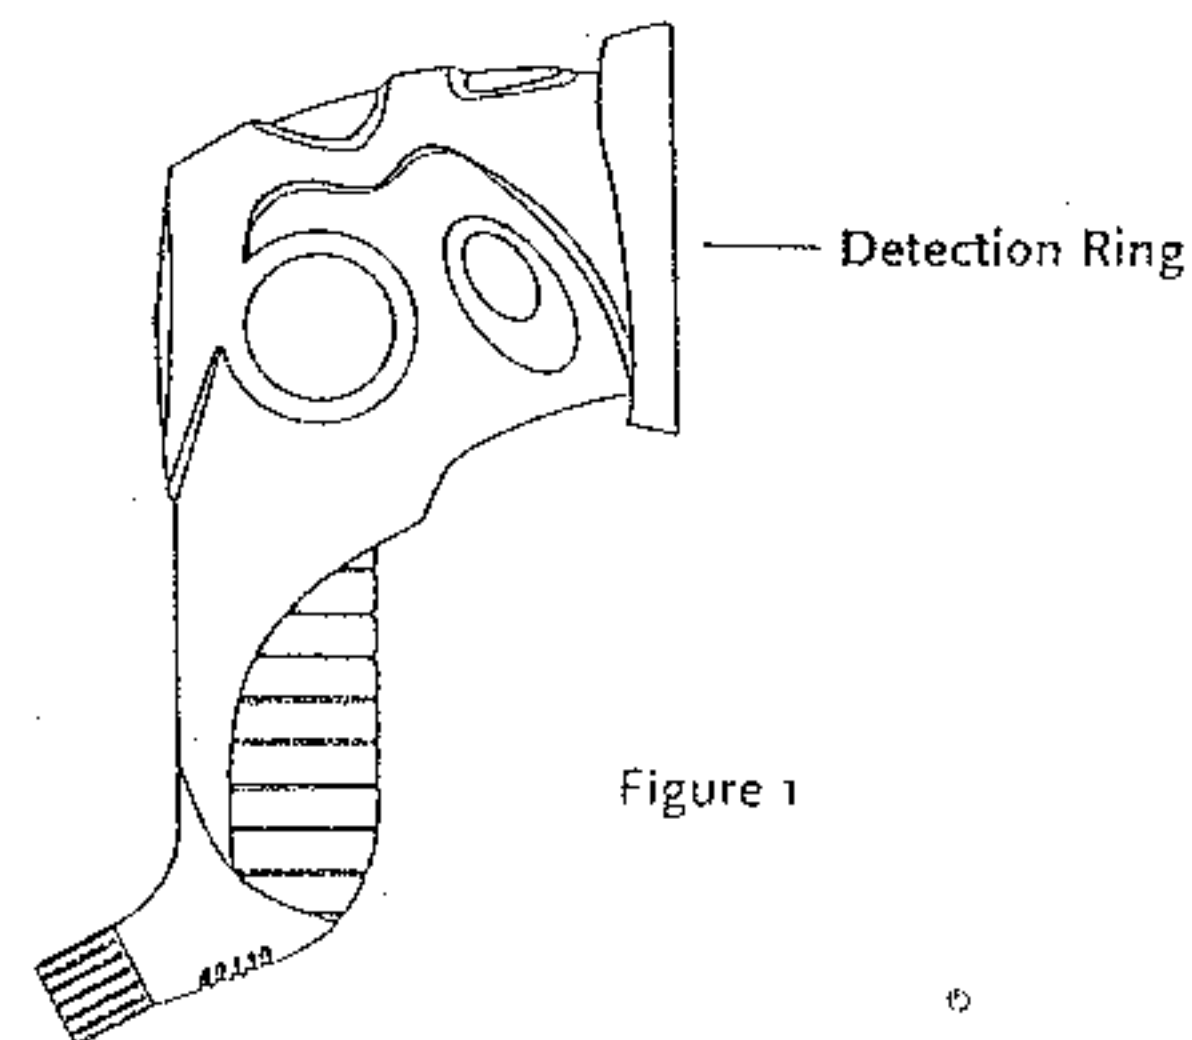

Figure 1
- ☐ A hand-held scanner to detect metal. (Figure 1)